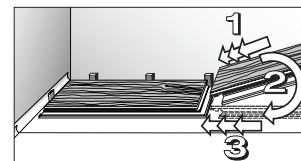

Figure 5
- Install second and subsequent full pieces in the first row by aligning short ends of boards and locking into place (Fig. 5).
- Use spacers along all sides that butt up against walls to maintain a 1/2" (12.7 mm) expansion zone (Figs. 5 & 6).